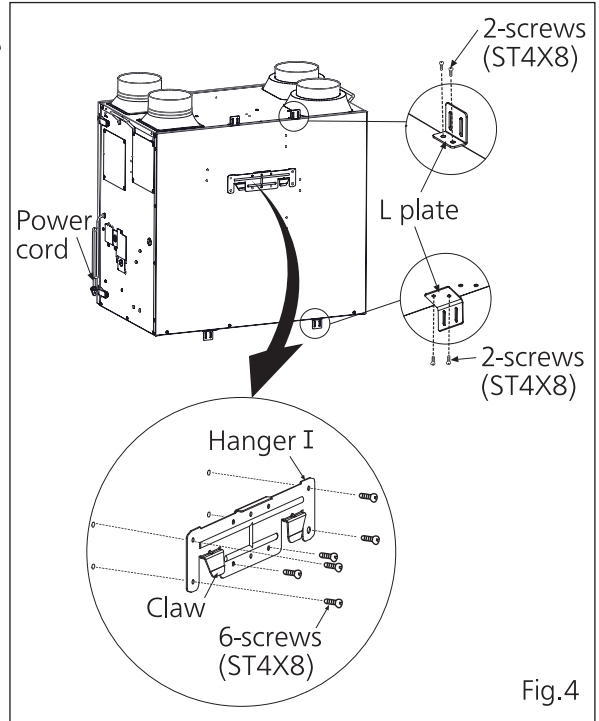

Fig.4
2. Attach hanger I on the back of frame body with screws (ST4X8) and mount L plate on the two side of frame body with screws (ST4X8). (Fig.4)